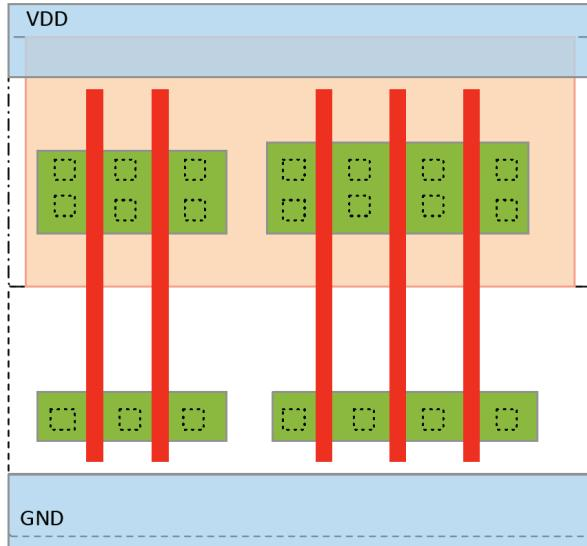

Figure 3: A template for the layout of the XOR gate.
- c) Draw the layout of the transistor diagram you drew in task a) in the supplied template. You are only allowed one connection point from the outside to each of the input signals A and B. Use the template supplied in Figure 3. It is repeated again at the end of this exam on tear-off pages. (6 p)